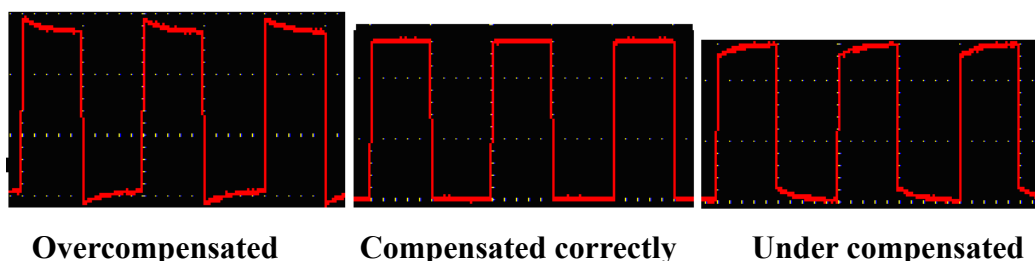
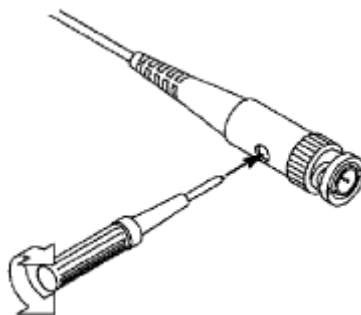

Fig. 4-7 Displayed Waveforms of the Probe Compensation
Fig. 4-8 Adjust Probe
2. Check the displayed waveforms and regulate the probe till a correct compensation is achieved (see Fig.4-7 and Fig.4-8).